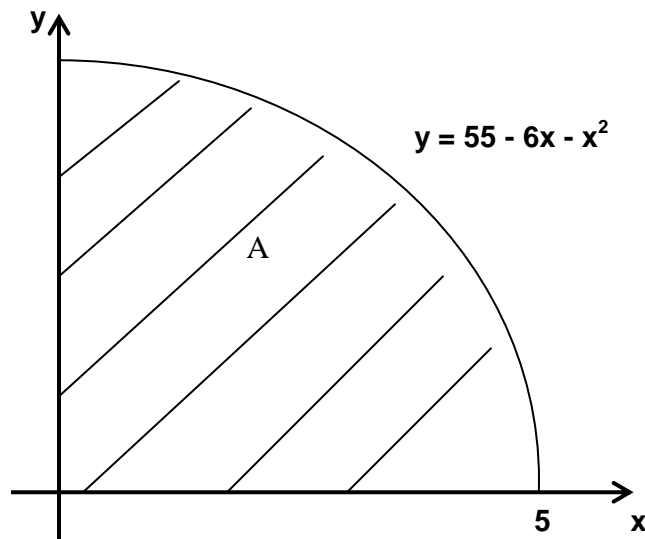

Figure 1
2. (a) From Figure 1, determine the following using integration method.